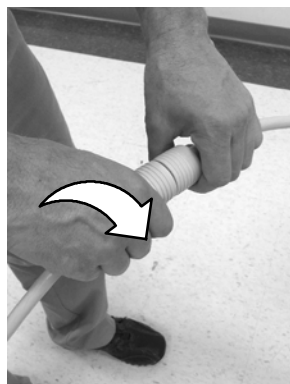

FIG. 6
1. Connect the supplied power cord into the machine and rotate the plug clockwise to lock plug connection (Figure 6).